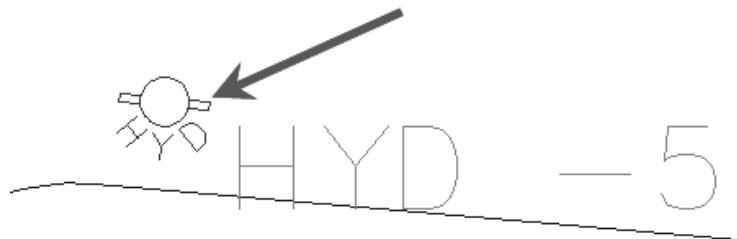

Figure 2–54
10. In the HYD row, change the *Format* from \$* to **Hydrant**, as shown in Figure 2–55.